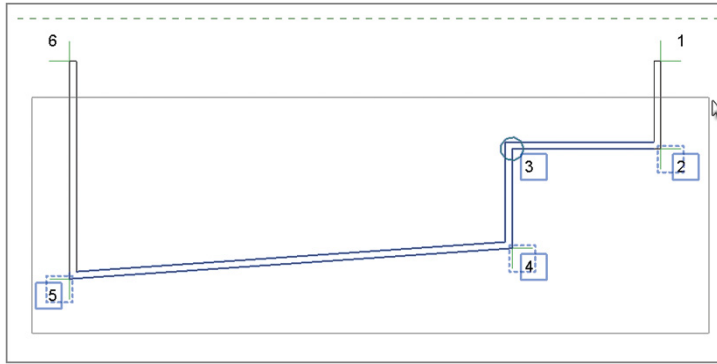

FIGURE 1.11 Drag the cursor from left to right to select some of the walls.
1. Using the mouse pointer, click and drag a window from the lower left to the upper right to select only the wall segments running east-west, as shown in Figure 1.11.